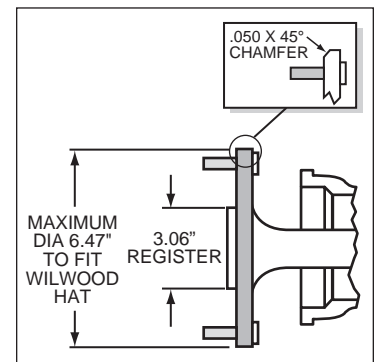

Figure 3. Axle Flange Maximum Dimension
- Axle center register diameter is 3.06", Figure 3. Rotors can either be centered on the axle register, i.e. *register-centric* or centered on the wheel studs, i.e. *stud-centric*. Due to variations in wheel stud final diameters, *register-centric* centering can be a more accurate method of centering the rotor to the axle.
- Maximum axle flange diameter must be no larger than 6.47" w/.050" x 45° chamfer (Figure 3).